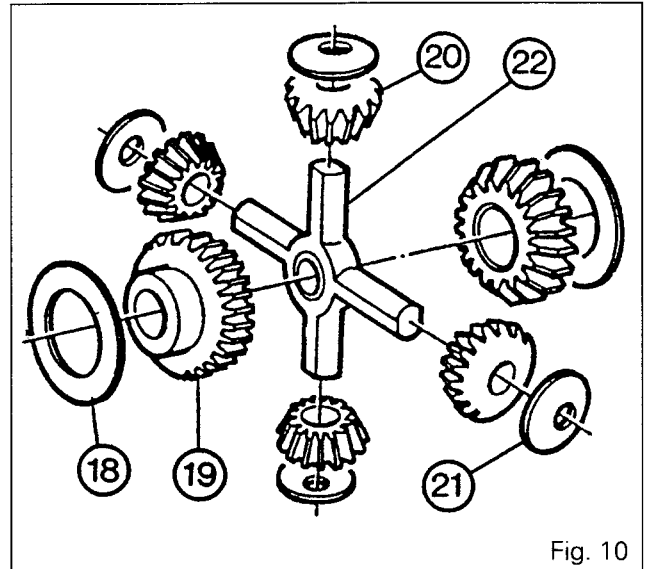

Fig. 10
44. Remove the bearing cones (17) - (28) and the cup (27).
45. Remove the screws (15).
46. Remove the fixed coupler (16).
47. Separate the two parts of the housing (29).
48. Remove the washers (18), the sun gears (19), the planetary pinions (20), the washers (21) and the cross joint (22) (Fig. 10).